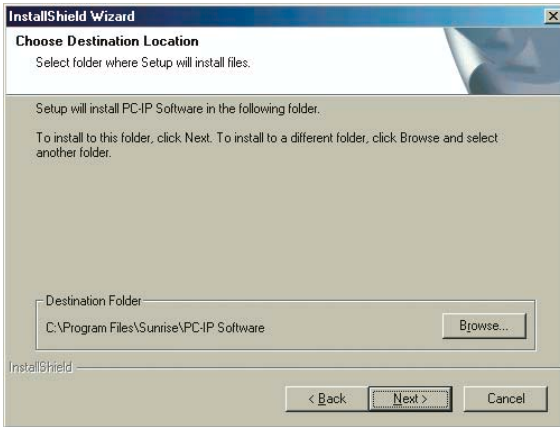

Figure 2-5
8. Accept the proposed shortcut folder location or select a new one as shown in Figure 2-5 and click Next.